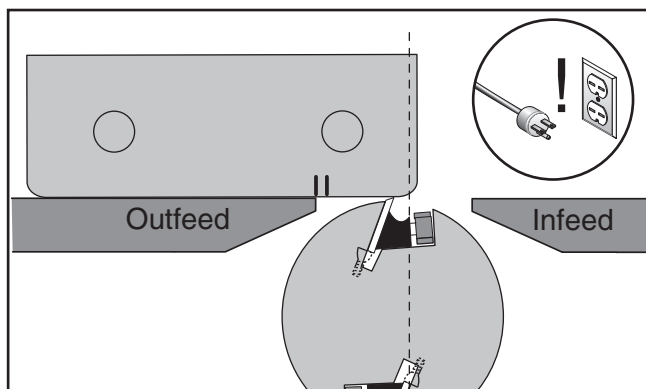

Figure 65. Using knife setting gauge to set knife height.
Knife Setting Gauge Method: The gauge is placed on the outfeed table over the cutterhead, as shown in **Figure 65**, and the knife heights are set to just touch the gauge. The knife setting gauge makes it easy to ensure that the knives project out of the cutterhead evenly.
6. Position the knife gauge over the knife as shown in **Figure 65** and loosen the gib bolts until the knife is completely loose.